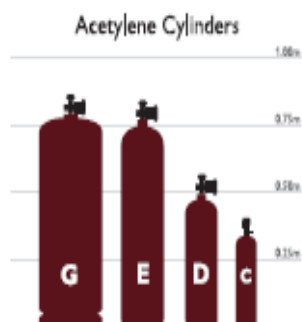

Figure 3 Size Range of Acetylene cylinders Available
3. Acetylene Cylinders – aggregate filled and acetylene is dissolved in acetone to get sufficient product into the cylinder. See Figure 3.